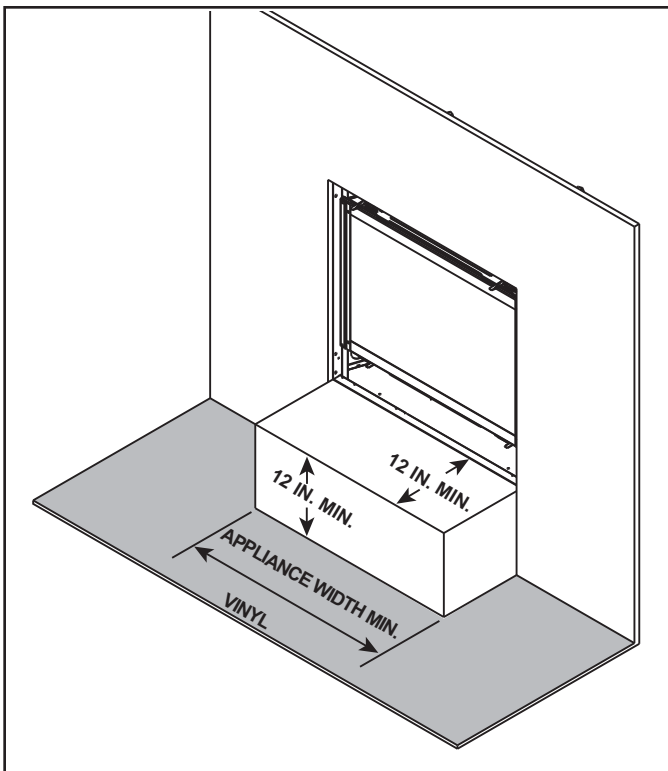

Figure 3.18 Vinyl Flooring Recommendations
- Combustible flooring may be located in front of the appliance. See Figure 3.18 for vinyl flooring recommendations.
Vinyl flooring is sensitive to heat. To avoid damage to the vinyl flooring, a 12 inch minimum x 12 inch minimum hearth is recommended when using vinyl flooring up to the wall. See Figure 3.18. If no hearth is used, it is recommended to provide a minimum of 24 inches of clearance in front of the appliance to the vinyl flooring OR the bottom of the appliance should be raised a minimum of 24 inches off the floor to allow the vinyl flooring to be installed up to the wall.